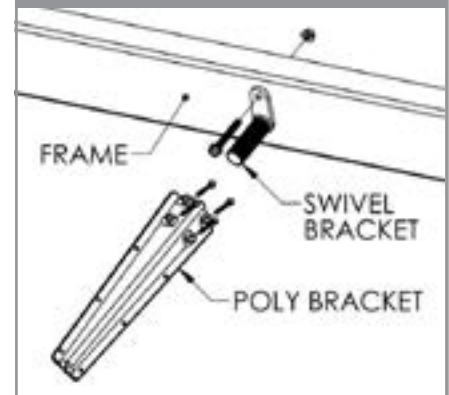

FIGURE 8
- Place four 5/16" x 3" bolts through the (10001464) poly bracket and the (10001485) backing block to clamp the (10001472) swivel. (See Figure 8)